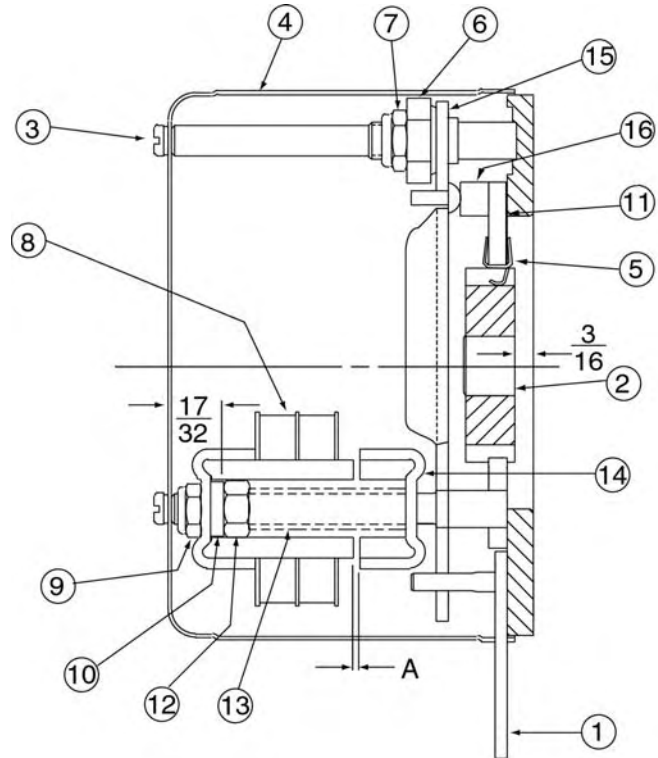

Figure 4. Brake Gap Adjustment
MANUAL RELEASE (See Figure 4)
FRICITION DISC REPLACEMENT (See Figure 4)
1. Remove the three cover screws (3), cover (4), nuts (9), magnet assembly (8), washers (10), nuts (12), torque springs (13), armature (14), nut (7), nut (6), pressure arm (15) and stationary disc (16).
2. Install new rotating disc (11) making sure anti-rattle spring (5) is installed in position shown and does not rest in a hub tooth space containing a set screw.
NOTE: In reassembly, tighten nut (6) so that it just makes contact with pressure arm (15). LOCATE nut (12) 1/2" from end of stud as shown in Figure 4. Tighten nut (9) as described under MAGNET ASSEMBLY REPLACEMENT. Readjust magnet air gap as described under WEAR ADJUSTMENT.
WEAR ADJUSTMENT (See Figure 4).
MAGNET ASSEMBLY REPLACEMENT (See Figure 4)